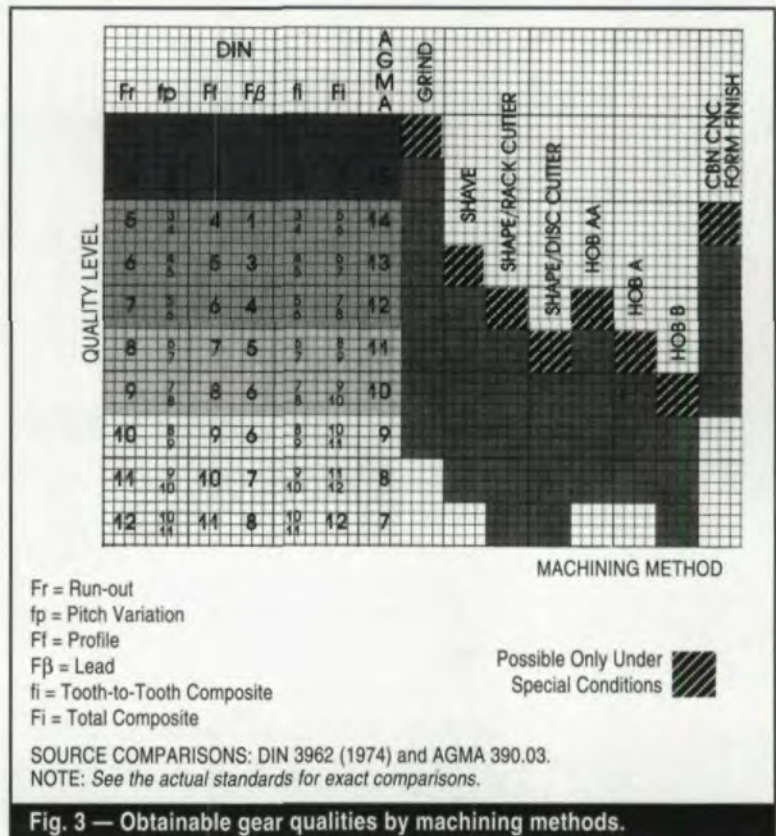

Fig. 3 — Obtainable gear qualities by machining methods.
**Finish Hobbing.** Finish hobs are used to put the final tooth form on a part. No secondary operations are performed on the tooth after hobbing, therefore, the hob cuts the part teeth to the finish tooth dimensions. Gears can be finish-hobbed if the quality level permits, and the machine and fixturing are accurate enough. See Fig. 3 for achievable gear qualities. Note that this chart is only a guideline, with actual results dependent upon the equipment and tooling available, the experience of the work force and the control of the heat treating process.